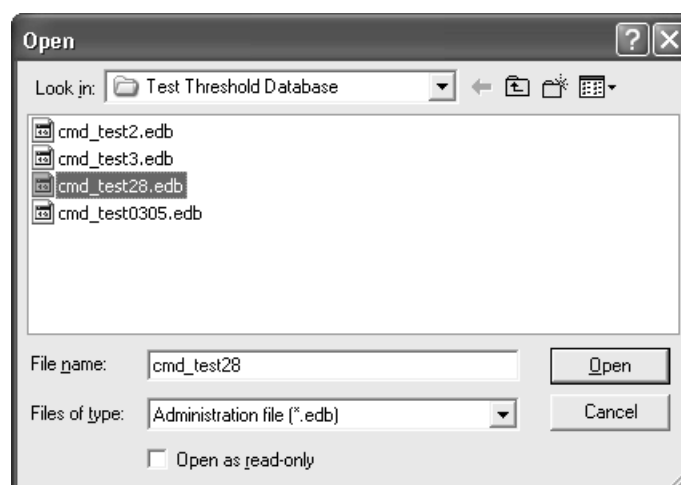

Figure 8-20: Open Dialog
- 4) An Open dialog opens (Figure 8-20).